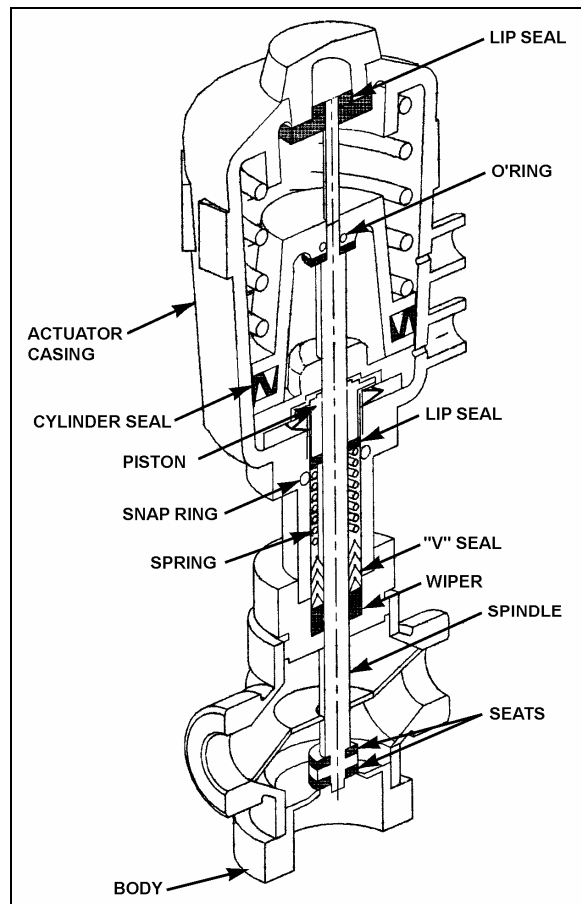

FIGURE 49: PNEUMATIC WATER VALVE
2. The water valve need not be removed from the line. Unscrew nipple, the actuator casing, tube, spindle and closure member can be removed (Fig. 49).
2. Tighten the nipple in place in the body cavity as per figure 49. Fasten pilot solenoid valve to the pneumatic water valve. Reconnect air supply pressure and electrical current to the pilot solenoid valve.